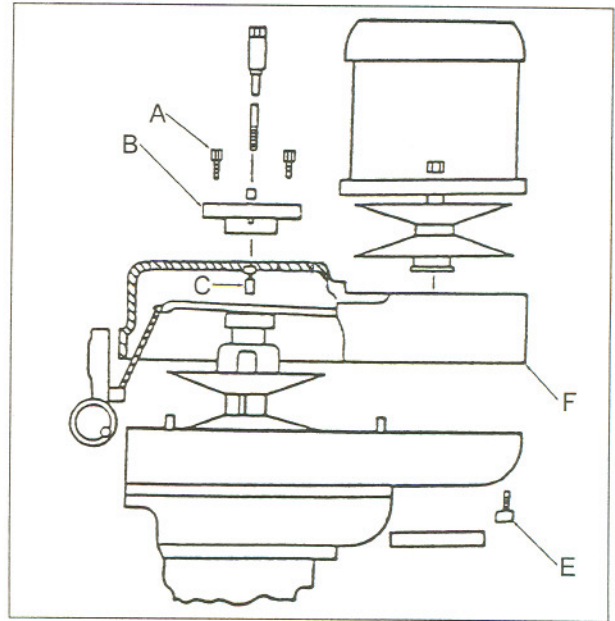

Fig. 17
3. Remove the three screws (A, Fig. 17). Thread the screws into the adjacent tapped holes and back off the cover (B, Fig. 17).
4. Remove the two screws and bushings (C, Fig. 17) from the tilting plate.
5. Remove six screws from the variable speed housing (E, Fig. 17).
6. Remove the top housing (F, Fig. 17) and tap to clear dowels.